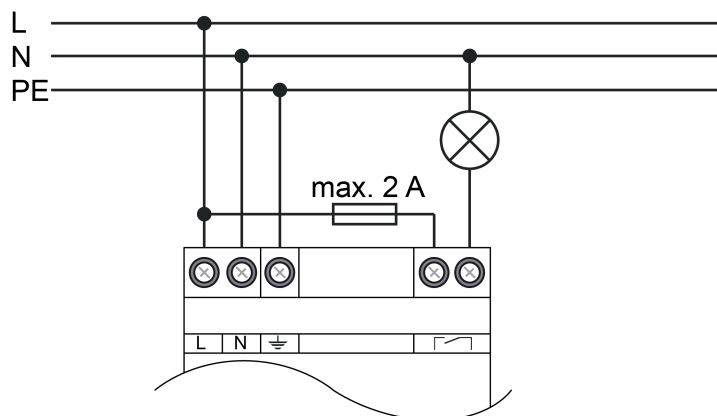

Figure 3: Connection example for optical signalling device
- Connect the signalling device according to the connection example (figure 3)Connecting .